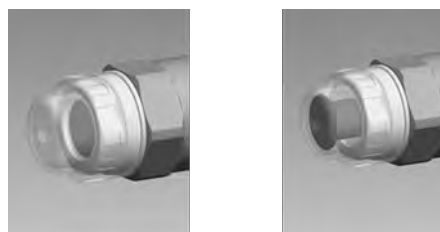

Fig. 9: Visual diaphragm rupture sensor, triggered and untriggered
With the **visual** diaphragm rupture sensor, the lowered red cylinder (6) springs forward beneath the transparent cover (7) so that it then becomes clearly visible - see Fig. 9.